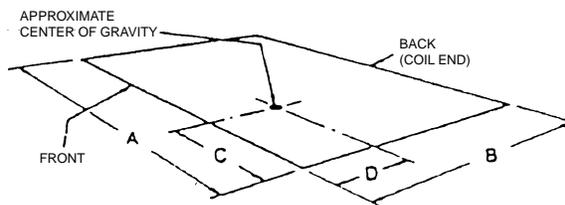

FIG. 1 – CENTER OF GRAVITY
A minimum of two (2) beams are required to support each unit. The beams should: (1) Be positioned perpendicular to the roof joists. (2) Extend beyond the dimensions of the unit to distribute the load on the roof. (3) Be capable of adequately supporting the entire unit weight. Refer to Figure 1 and Table 2 for load distribution and weights.
A unit can also be supported by concrete piers. These piers should (1) extend below the frost line, (2) be located under the unit's four corners, and (3) be sized to carry the entire unit weight. Refer to Figure 1 and Table 2 for the center of gravity and unit weight.